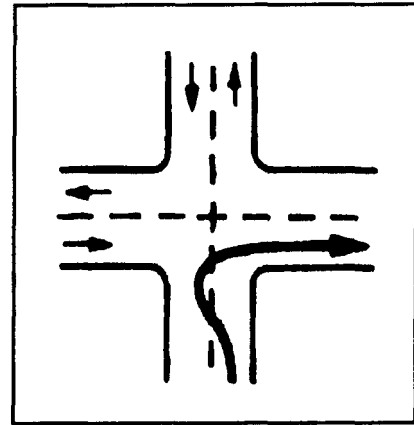

Figure 2-5. Wrong right turn
- Do not turn wide to the left as you start the turn (see Figure 2-5). Drivers to your rear may think you are turning left and try to pass you on the right. You may crash into them as you complete your turn.